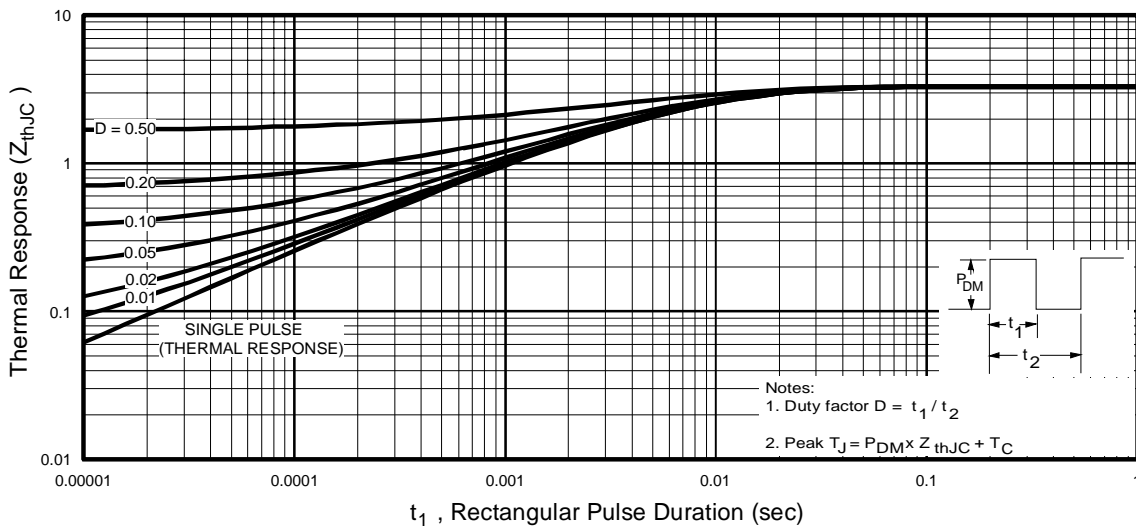

Fig 11. Maximum Effective Transient Thermal Impedance, Junction-to-Case
- ① Repetitive rating; pulse width limited by max. junction temperature. (See fig. 11)
- ② $V_{DD} = 15V$, starting $T_J = 25^\circ\text{C}$, $L = 570\mu H$